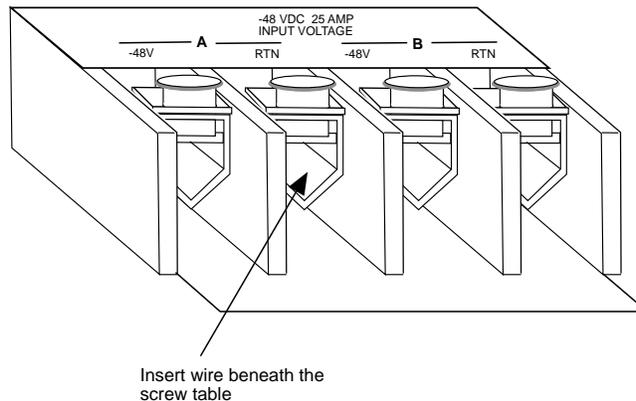

Figure 3-4. DC Power Feed Termination Block
3. Connect the CO -48 VDC lines to the unit. The terminals are labeled for -48 VDC and return (see Figure 3-4).